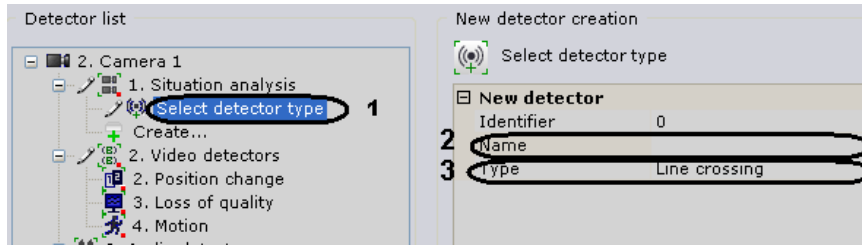

Fig. 6.4—7 Selecting detector type
3. In the **Name** field (see Fig. 6.4—7, 2), enter the detector name which will appear in the detector list and the viewing tile.